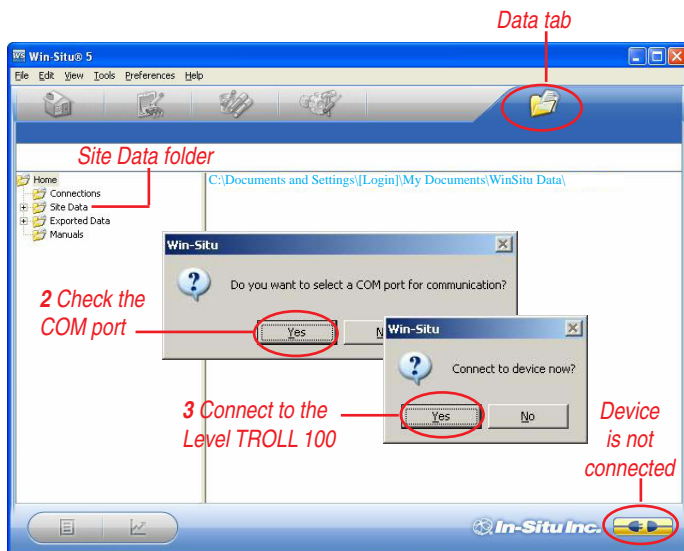

Fig. 1. Win-Situ Data tab on first connection
- Win-Situ launches at the Data tab, shown in Fig. 1.
- On the Data tab, click the Site Data folder (Fig. 1).